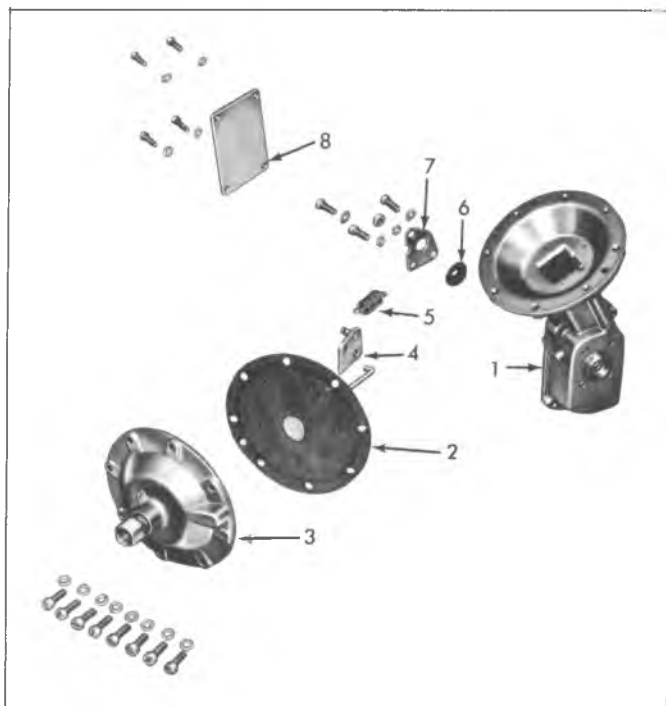

Fig. 3G—Governor - Explode
1. Remove the four governor cover attaching screws and then the governor cover and gasket if used (fig. 3G).